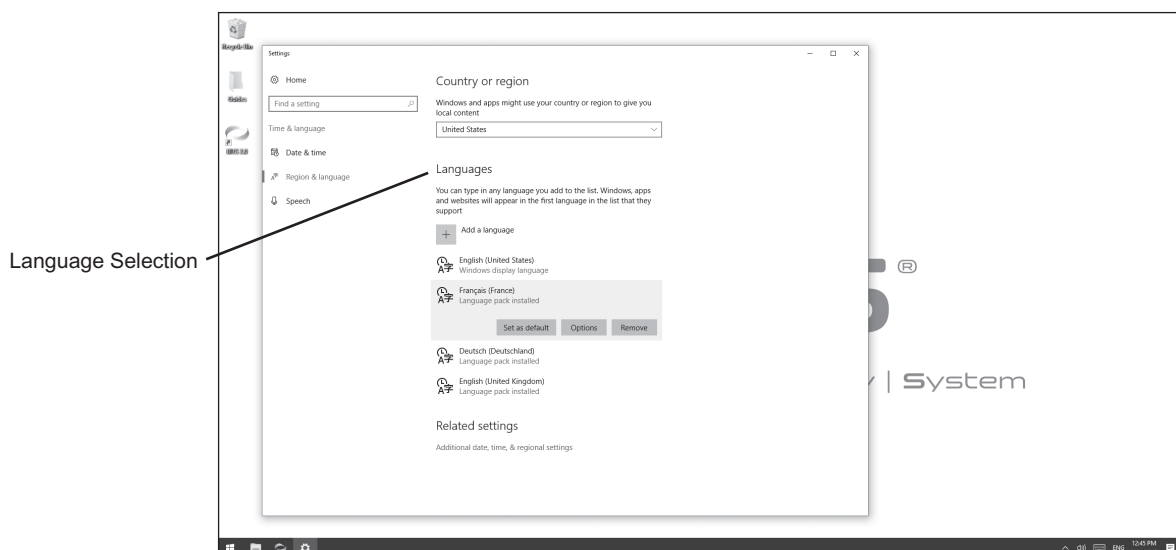

Figure 34: Region & Language Settings Menu
7. From the Region & Language menu, select the appropriate language and press Set as default. See Figure 34.